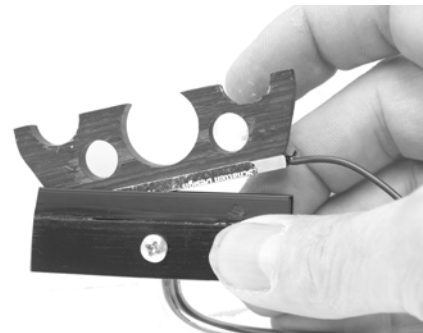

Fig 4
3) Slide the pickup into place on the tool, as shown until the pickup rests against the locating pin. (fig 4)